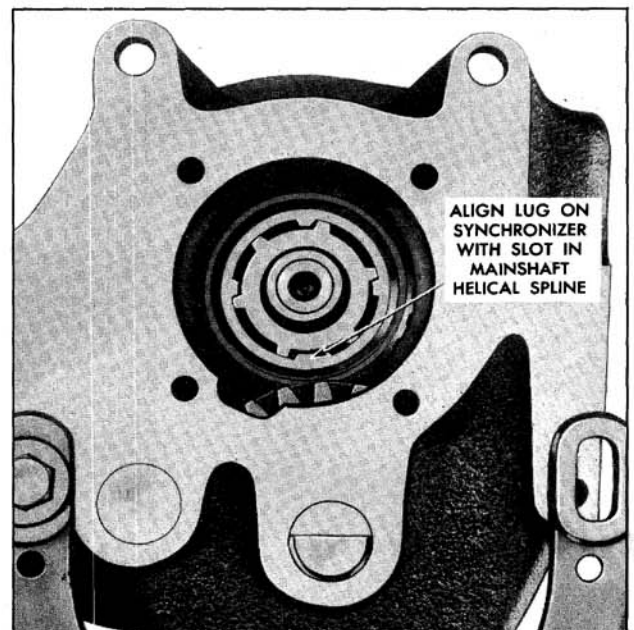

Fig. 7-10 Synchronmesh Alignment
2. Remove extension to transmission case bolts and lockwashers and pull extension and mainshaft out of transmission case, leaving second and third-speed clutch assembly and first and reverse gear in case. Do not force mainshaft. Rotate mainshaft and second and third-speed clutch gear to obtain alignment of clutching teeth and splines. (Fig. 7-10)